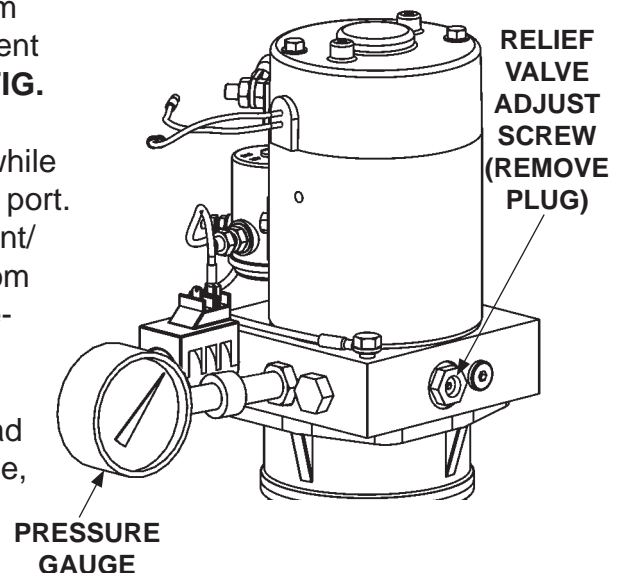

FIG. 51-2
3. With platform on the ground, remove the pressure hose and fitting from the pump and replace it with a 0-4000 PSI pressure gauge. Hold the switch in the "UP" position. Adjust the relief valve on the side of the pump until the gauge shows 3250 PSI (**FIG. 51-2**). Remove gauge and reinstall pressure hose.